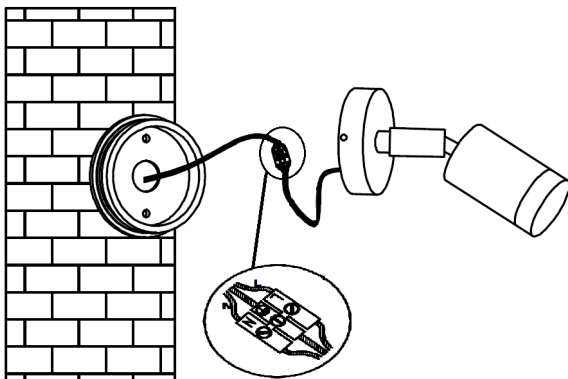

Fig. 2
- Connect the luminaire to the mains supply ensuring the correct polarity is observed: Live (brown), Earth (green/yellow), Neutral (blue) (see Fig. 2)